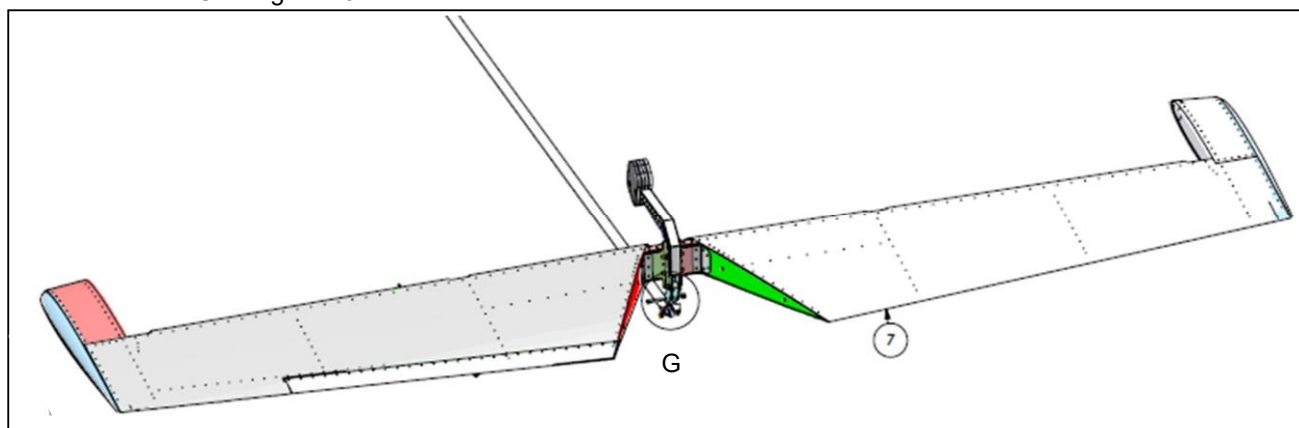
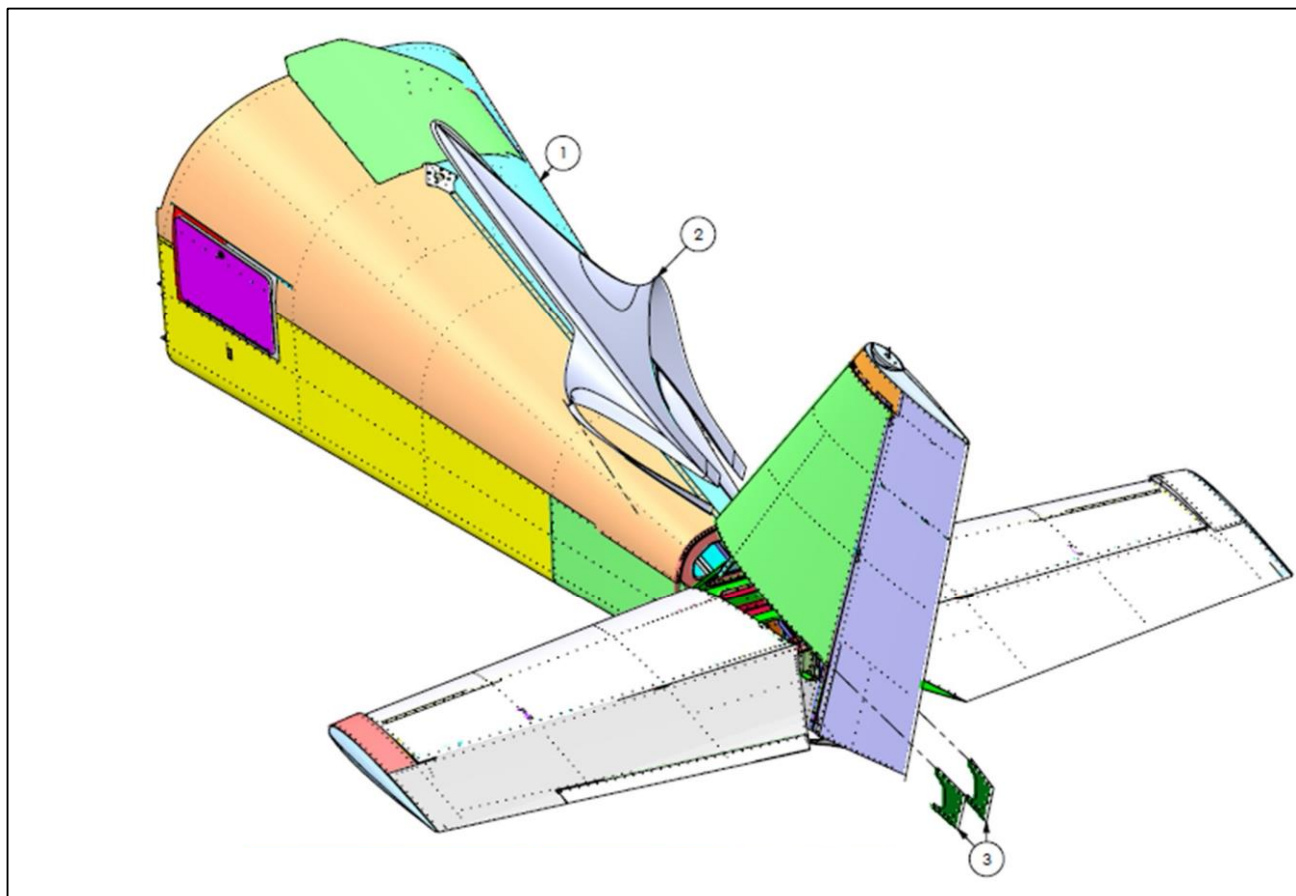

Figure 20
Figure 21: Fairing removal
Step 11. The last eyebolt that needs to be inspected and replaced is the one connected to the elevator horn in detail G of Figure 20.
Step 12. To access this, you will need to remove the fairings (2) & (3) in Figure 21. The eyebolts shown in Figure 20 can be accessed without removing the tail.